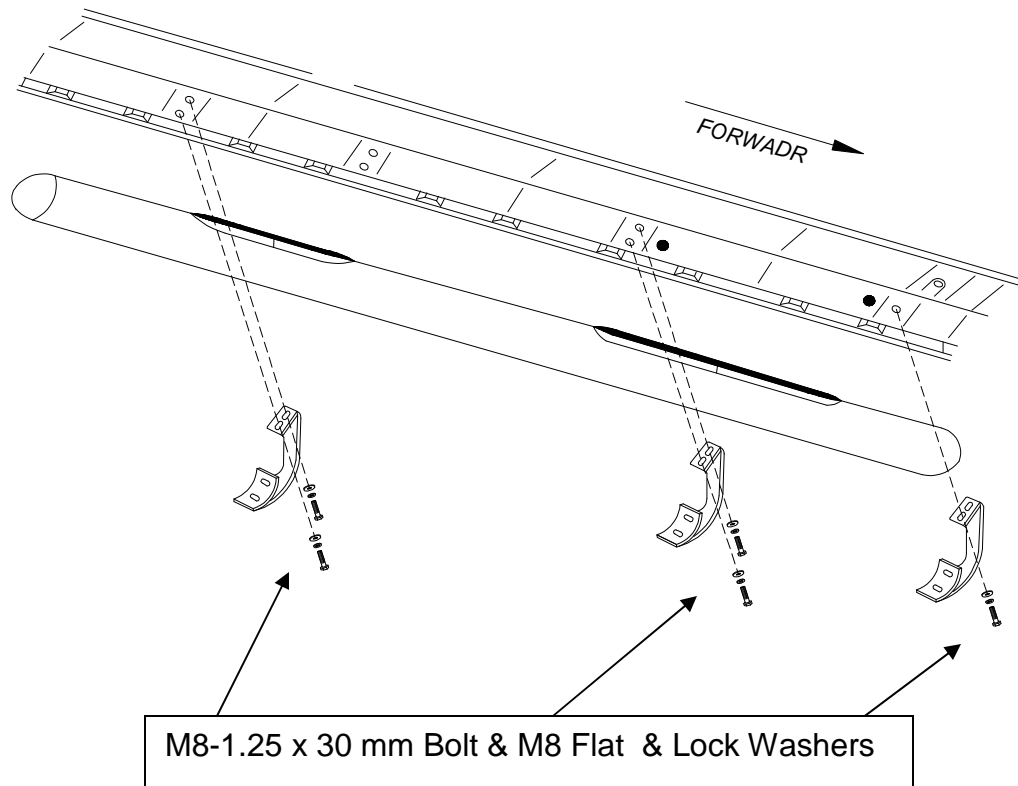

Figure 1. Installation View of Driver Side Shown
2. Determine driver side brackets. All driver side brackets are identical with metal cup facing toward the rear of the vehicle (**see Fig. 1**).
3. Install driver side bracket closest to the front wheel first. Use one M8-1.25 x 30mm hex head bolt, M8 flat washer, and M8 lock washer by attaching to underside of body panel. Hand tighten. Use existing factory hole in body panel for install (**see Fig 1**).
4. Attach remaining driver side brackets to underside body panel by using two M8-1.25 x 30mm hex head bolts, M8 flat washers and M8 lock washers per bracket. Hand tighten. Use existing factory holes in body panel (**see Fig. 1**).